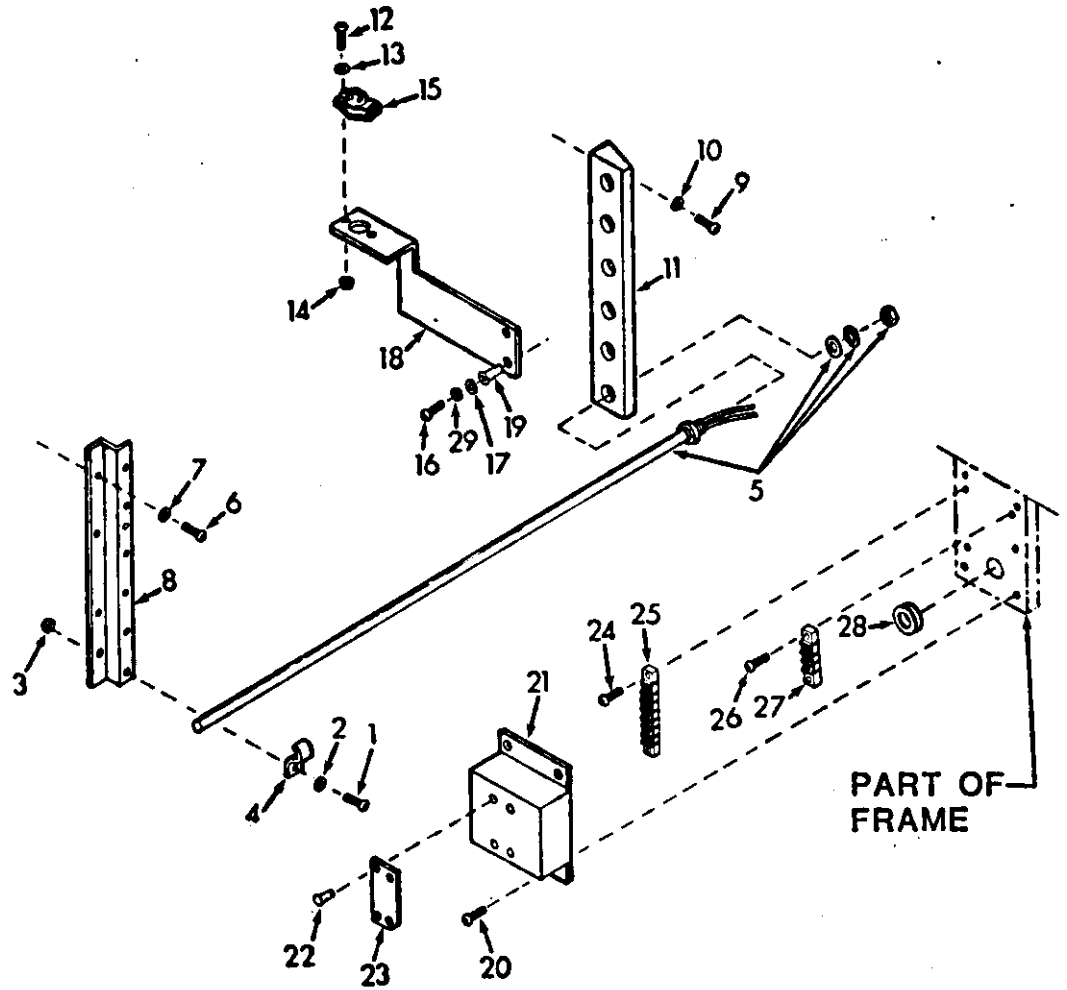

Figure 5-23. Heating Elements (HR1 thru HR6)
(3) Loosen eleven screws and remove left-hand top rear panel assembly.
(4) Remove four screws and pull terminal board cover from unit. (See figure 5-23.)
b. Inspection (See figure 5-23.)
(1) Check that all attaching brackets and hardware are in place and secure.
(2) Check that wires and connections at terminal boards are in good condition and secure.
(3) Inspect heating elements for deformed outside covers and other obvious damage.
(4) Check terminal boards for loose or corroded terminals, cracks, and obvious damage. Replace if cracked or broken.
Legend for Figure 5-23
d. Component replacement. Use figure 5-23 as a guide to replace damaged or defective components.
- (1) Check that all wires have been reattached.
- (2) Secure terminal board cover with four screws.
- (3) Secure outside panels.
- (4) Connect power.